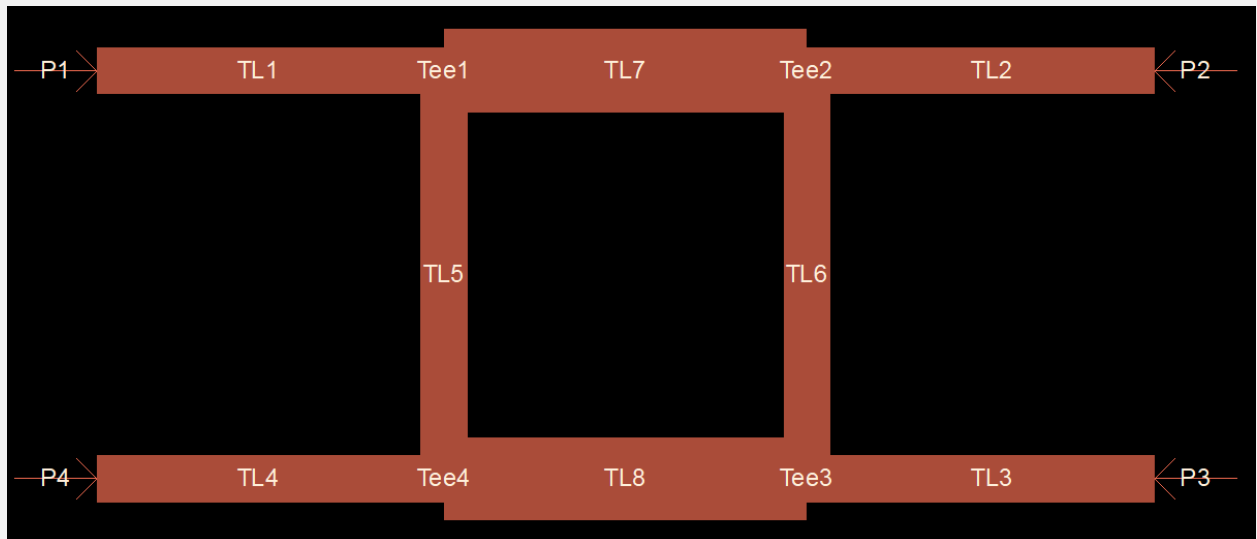

Figure 8. Distributed branch line coupler layout
3. To create the model using library components, select the **TLines – Microstrip** library. Select the appropriate type of microstrip line from the library and place it on the layout window, as shown in the Figure 8. To make the connections at the junctions, add a **Microstrip Tee (MTEE)**. Make sure to add the four ports at the appropriate places.